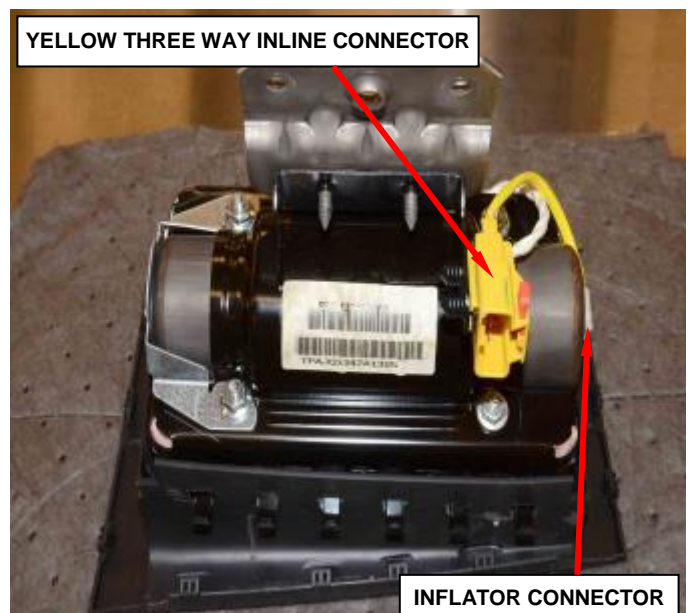

Figure 106 – Inflator Connectors
- c. Disconnect the single yellow wire inflator connector from the end of the inflator using pliers (Figure 106).
- d. Remove the yellow three way inline connector from the housing bracket (Figure 106).